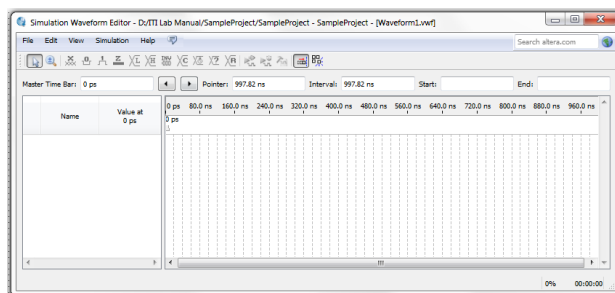

Figure 4.5.2: Waveform File
- o The Simulation Waveform Editor should be displayed (Figure 4.5.2)